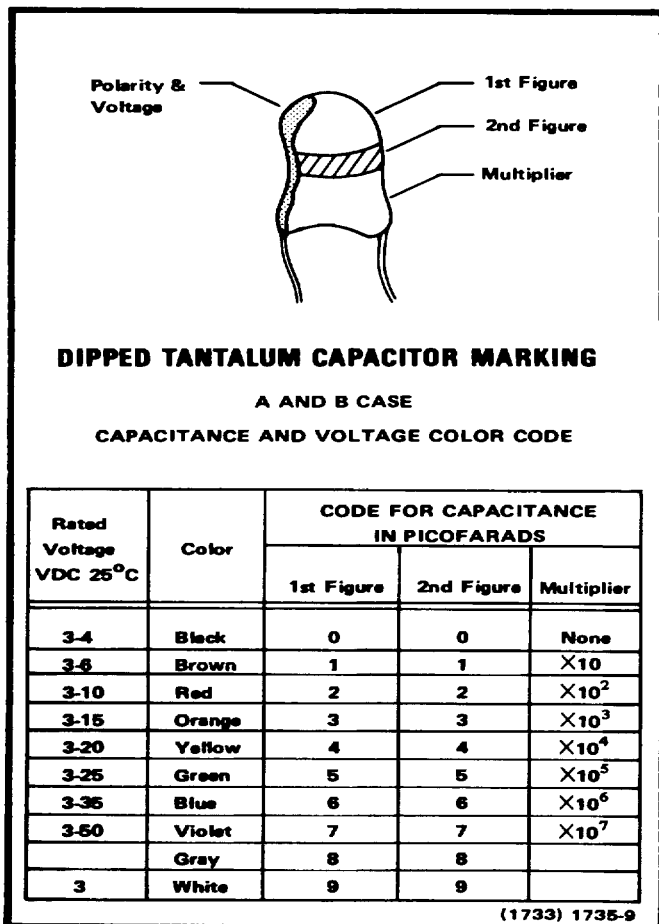

Fig. 5-2. Color code for some tantalum capacitors.
**Capacitor Marking.** The capacitance value of common disc capacitors and some electrolytics are marked in microfarads on the side of the component body. The white ceramic capacitors are color-coded in picofarads. Tantalum capacitors are color-coded as shown in Fig. 5-2.